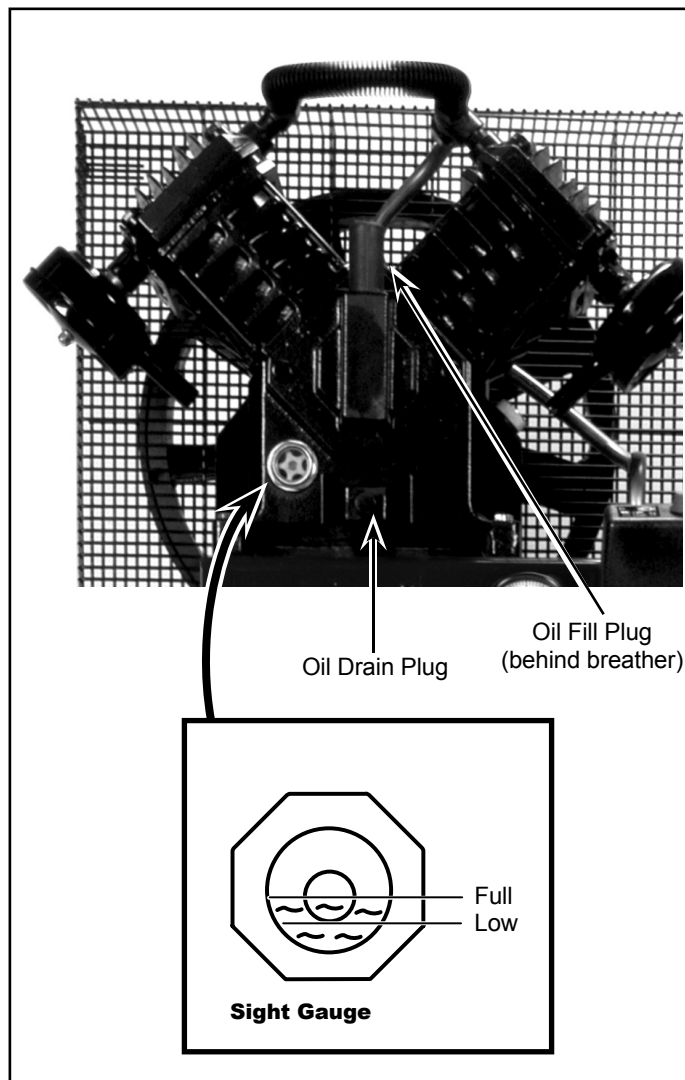

Figure 6 - Lubrication
**⚠ CAUTION** *This unit contains no oil. Before operating compressor, fill to the center of the sight gauge (see Figure 6).*
Fill the pump with oil to the center of the sight gauge using oil fill opening (see Figure 6). **Do NOT fill the pump through the breather cap opening as this may cause oil to leak and spray out during operation.**